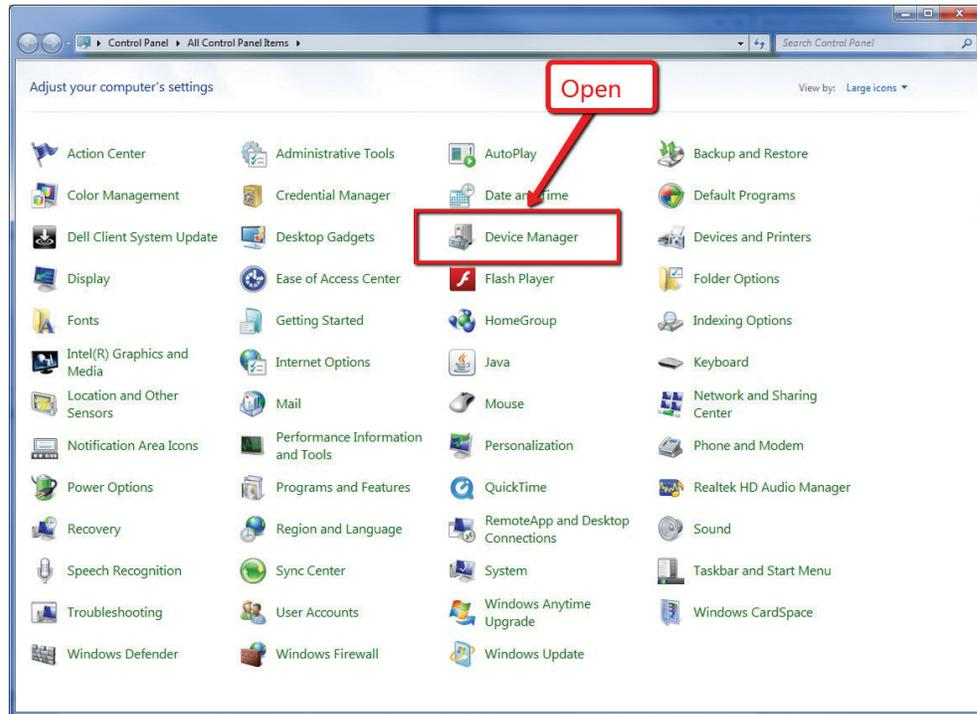

Figure 5 Windows Control Panel
5. Go to Windows Control Panel and open device manager. See Figure 5.